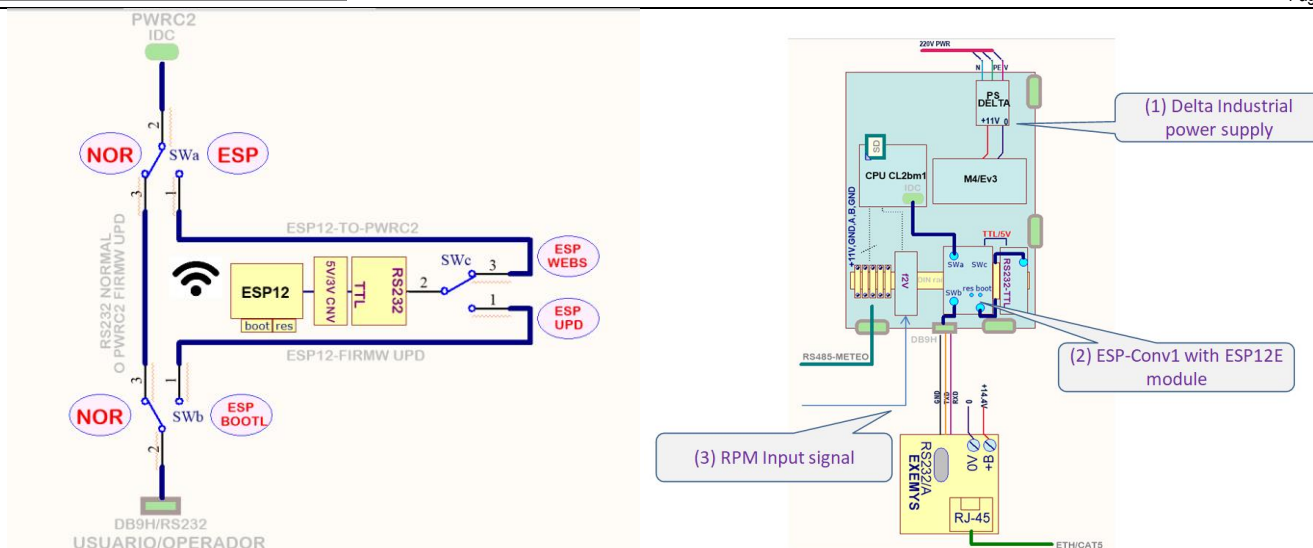

Figure 2a –ESP-Conv1 block diagram and connection to PWRC2
2.1 Block Diagram and Operational Modes of ESP-Conv1: The new addition to CL2-based [ref1] PWRC2 Small Wind Turbine (SWT) measurement units is called ESP-Conv1. A block diagram and connection can be seen in Figures 2a,2b. It allows operators to use the existing RS232 interface on PWRC2 units in the conventional cabled terminal/ RS232 (bypass) directed to the CL2 board on the PWRC2 (**Mode1**), to the WiFi / ESP12 (ESP8266) [ref3] module via its internal serial port (for ESPWRC2 Webserver software update) (**Mode2**), or redirecting this ESP internal serial port to the serial port on the CL2 board (**Mode3**). In this last mode, the PWRC2 can be accessed via WiFi using the integrated ESP12. Table 1 shows a listing of these operational modes.